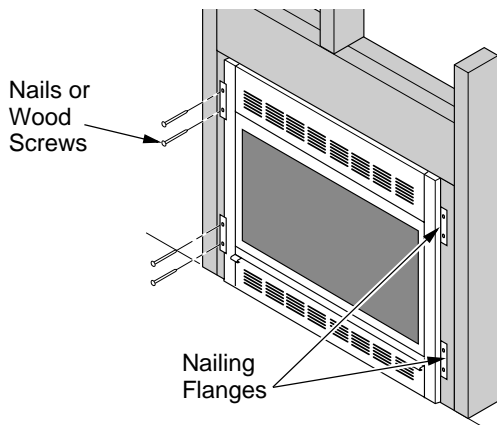

Figure 36 - Attaching Fireplace to Wall Studs (EFP33PR Shown)
8. Attach fireplace to wall studs using nails or wood screws through holes in nailing flange (see Figure 36).